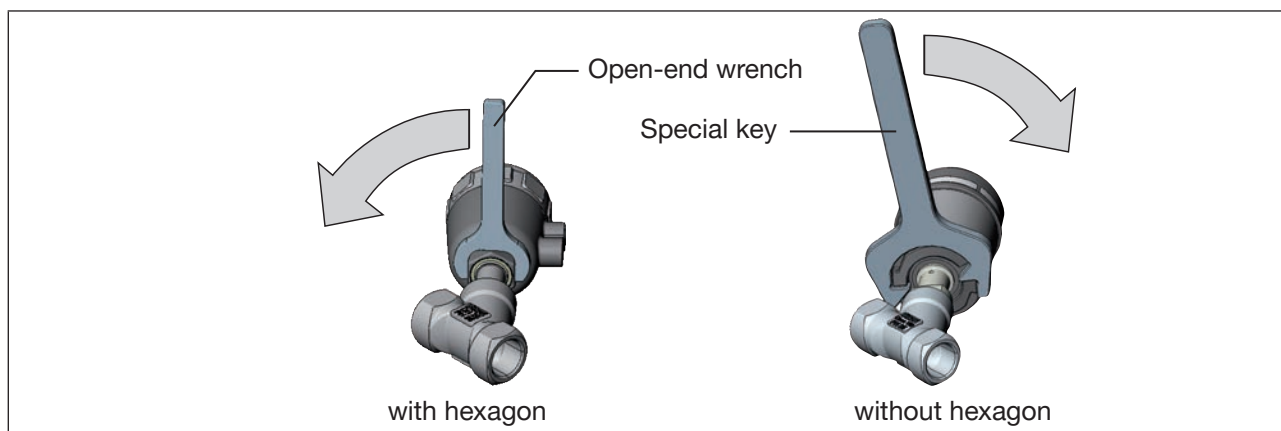

Figure 17: Rotating with special key / open-end wrench
▶ Rotate the actuator module in the specified direction only (see “Figure 17”).